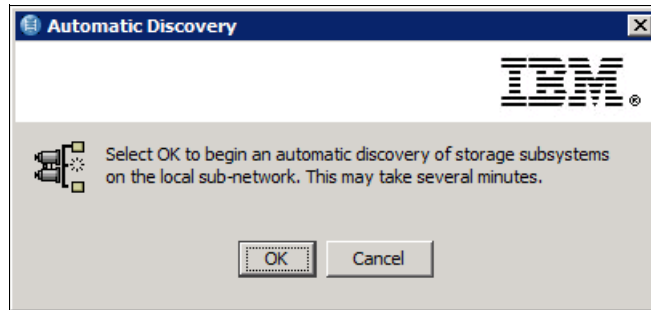

Figure 4-24 Automatic Discovery
3. Click **OK** to begin an initial automatic discovery of hosts and storage subsystems that are attached to the local subnetwork, as shown in Figure 4-24.